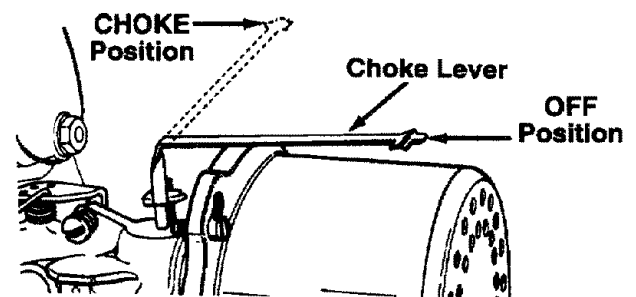

FIGURE 13.
- Move choke lever to CHOKE position (See figure 13.).
NOTE: If engine does not fire after three attempts, move choke lever halfway between CHOKE and RUN position and try again. See figure 13.
- Move throttle control lever to OFF position. See figure 13.